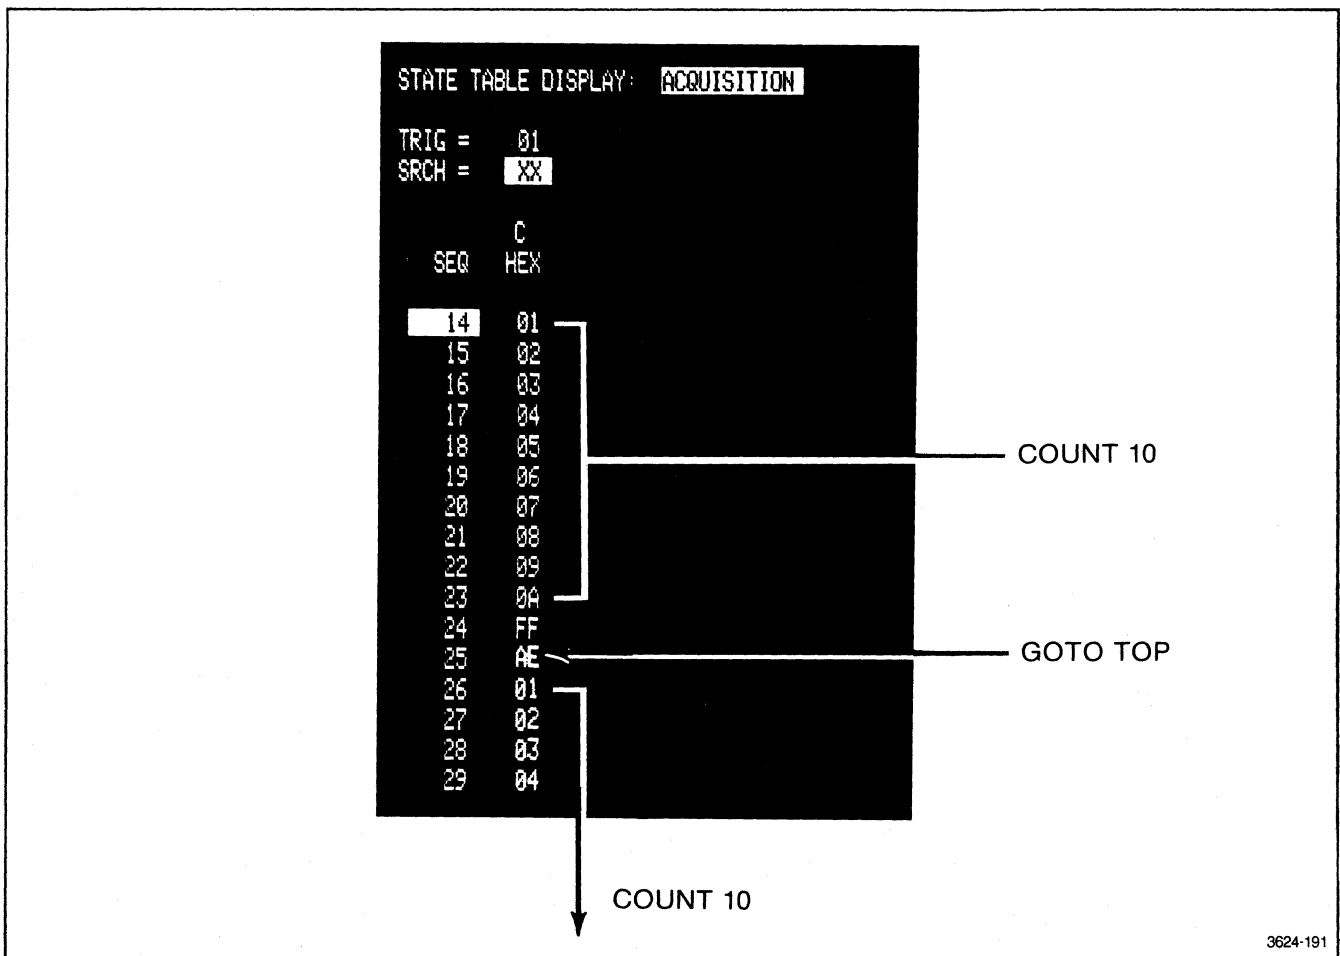

Figure 11-16. Acquiring the COUNT example program.
**Acquiring the COUNT Example Program.** Figure 11-16 illustrates how this program appears when it is acquired using the pattern generator's output clock (see Figure 11-7). The START SYSTEM key is used for the acquisition.